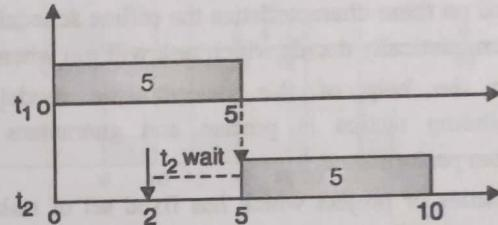

Fig. 1.2.6 : Non pre-emptible tasks Execution
- As shown in Fig. 1.2.6, t1 is completed till 5 sec even a new task t2 is arriving at 2 sec.